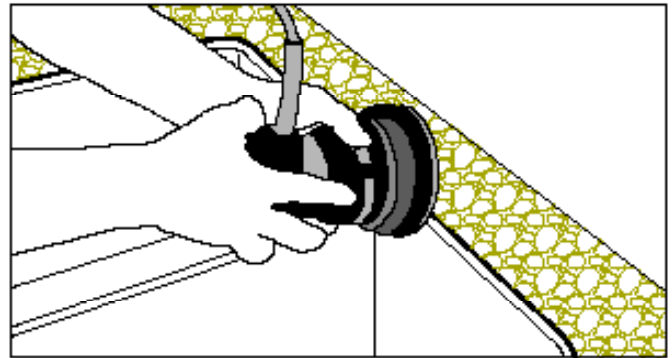

Figure 13A
- Sand the edge of the laminate and sink wall with a random orbital palm sander. Use a 150 to 220 grit sandpaper. (FIG. 13A)